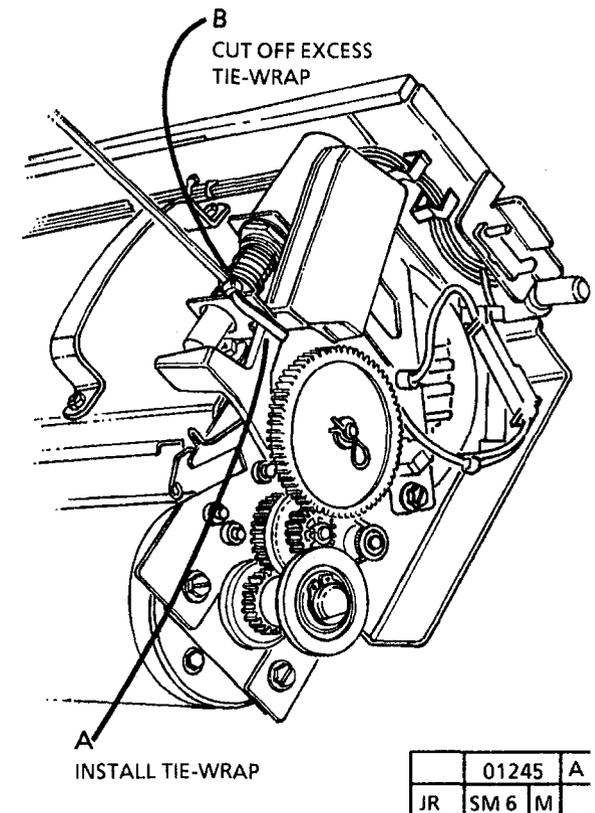

Figure 1. Install a Tie-Wrap on the Solenoid Weight
4. (FIGURE 1): INSTALL A TIE-WRAP ON THE SOLENOID WEIGHT.